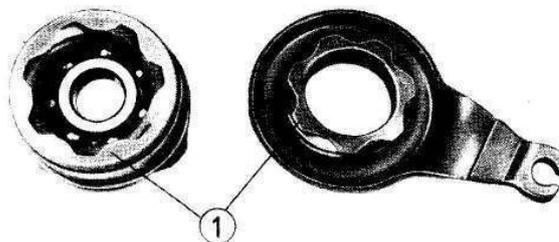

Fig. 35. Clutch actuating mechanism
- PRESSURE LEVER AND BEARING BUSH (Fig. 35)